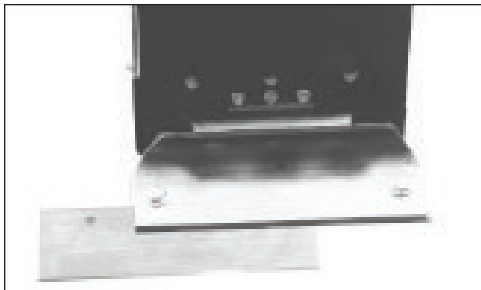

FIG. 6
- Blades can be offset in cutting head for easier access to toe kicks or removal along the wall (Figure 6).